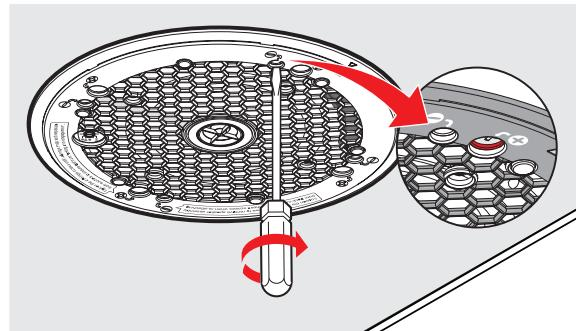

Figure 2. Tighten the Attachment Screws
- d.** Using a flathead screwdriver, tighten the four screws that attach the speaker assembly to the back can (see figure 2).